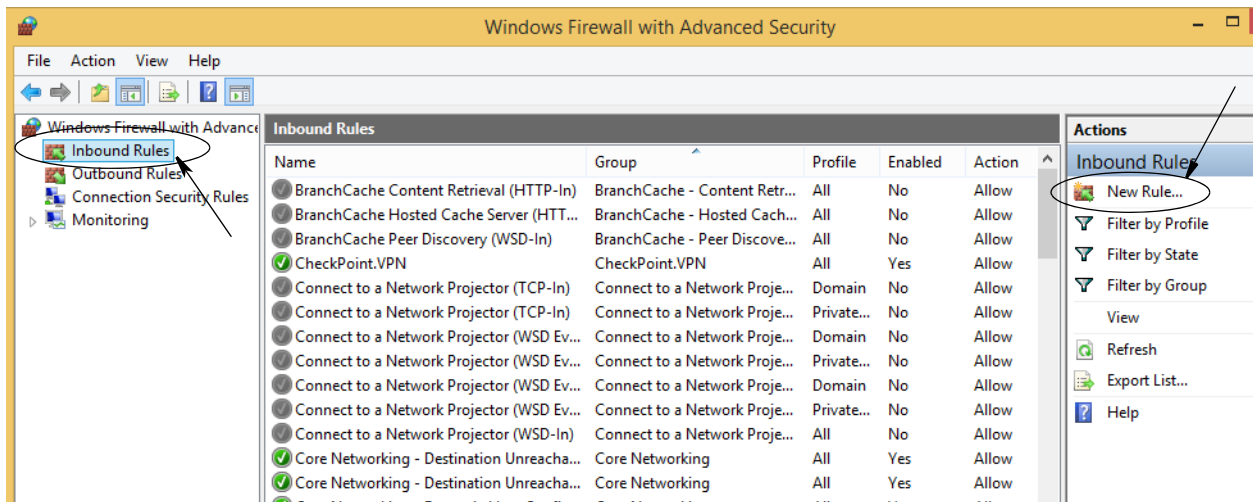

FIG. 41
- On the left side of the screen select Inbound Rules. Then, on the right side of the screen click on New Rule (FIG. 41).